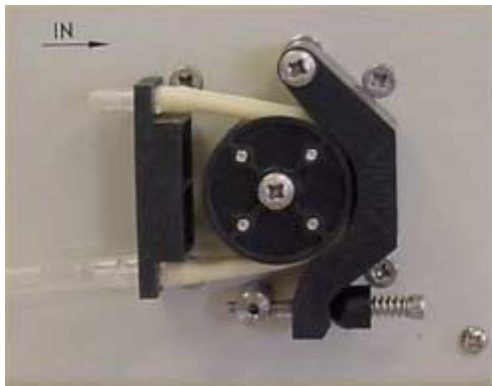
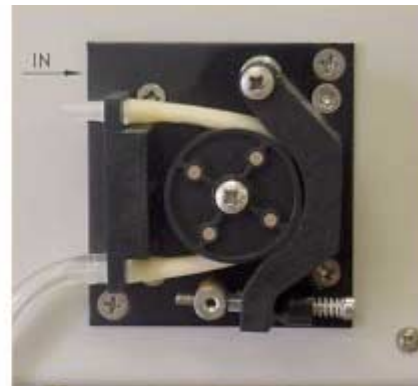

Figure 1-18
Figure 1-19
17. First step is to determine what version peri pump you have. If your pump looks like Fig 1-18 then continue on. If you have fig 1-19 then skip to step 26.
26. Remove 2 outer screws (see Fig 1-19) and unplug wire connector from stepper board. Remove pump.